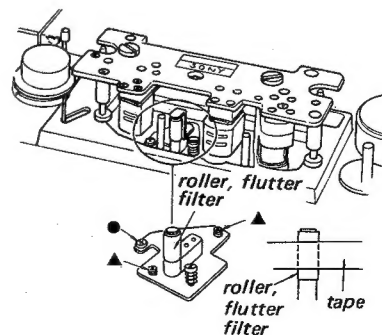

Fig. 3-1-3. Flutter filter roller adjustment
See Fig. 3-1-3.
- (1) Remove the Head Cover.
- (2) Thread a tape and set the unit to the play mode.
- (3) Adjust the height of the Flutter Filter Roller by the screws marked ▲ and ● in Fig. 3-1-3 so that the tape runs through the middle of the Flutter Filter Roller.
- (4) Turn the screw marked ● in Fig. 3-1-3 to perform the azimuth adjustment of the Flutter Filter Roller.
- (5) For zenith adjustment turn the two screws marked ▲ in Fig. 3-1-3 to contact the tape uniformly with the record and playback heads.
- (6) Make sure that the Flutter Filter Roller smoothly rotates during tape running. Apply lock paint to the adjusting screws.